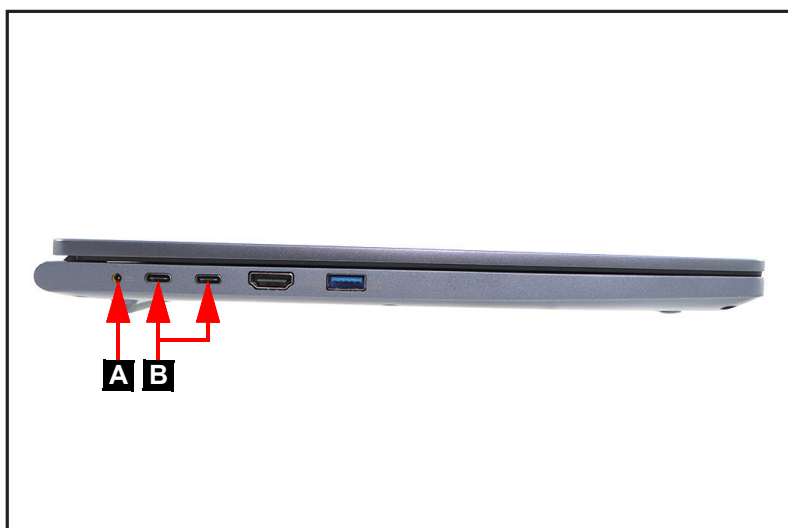

Figure 1-1. Adapter Outlet
2. Remove the AC adapter from the DC-in jack (A) or the power adapter from the USB Type-C port (B) as shown in Figure 1-1.